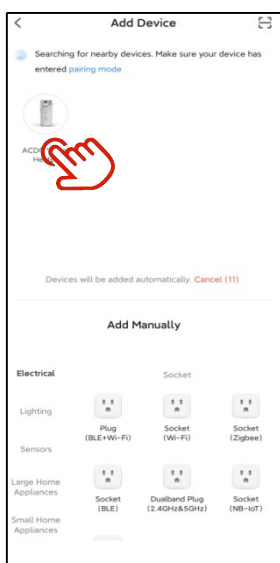

Fig.12 Searching for devices
4. After that, the system automatically searches for nearby devices. Click the icon of the device being added to add the device (Fig.12);